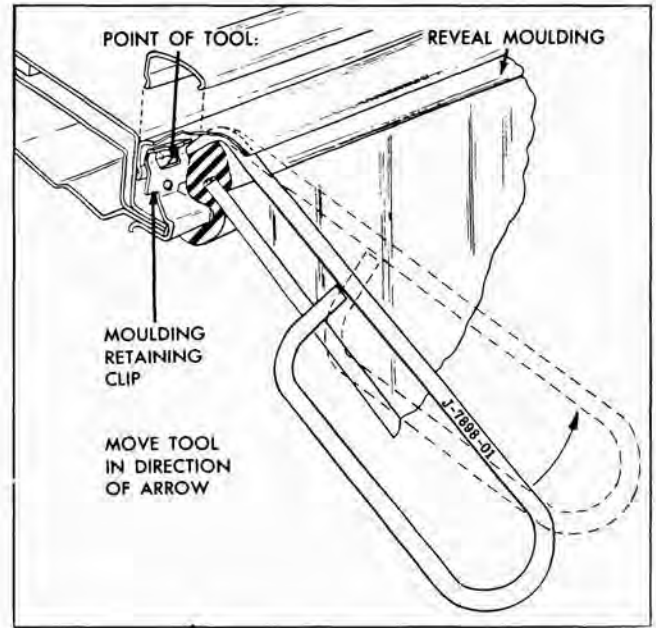

Fig. 2-5 Reveal Molding Removing Tool
6. On all styles except 67 styles tool J-7898-01 may be used to remove the side and upper reveal moldings. When using reveal molding removing tool (J-7898-01) carefully lift up upper end of reveal molding sufficiently to engage point of tool between molding and molding clip as indicated in Fig. 2-5,
8. On all styles except 67 styles, carefully remove the upper reveal molding with tool J-7898-01 (Fig. 2-5) or flat-bladed tool as required. On 67 styles remove screws at outer ends of molding; then, remove upper garnish molding to gain access to stud nuts. Remove nuts and molding.